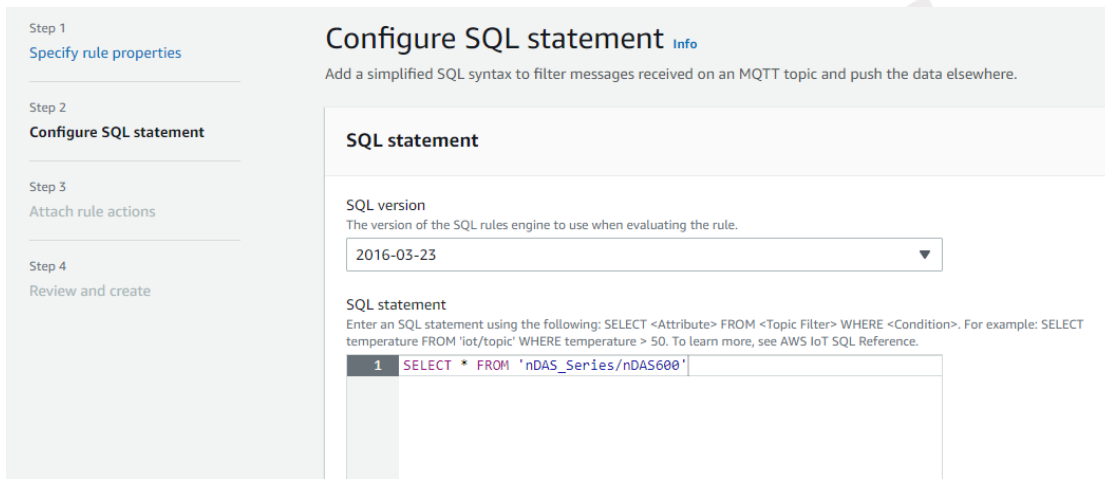

Figure 4-135 Create Rule-Configure SQL statement
2. During step 2 of creating a Rule, you need to enter an SQL statement. This statement determines which messages from the subscribed Topic in IoT Core will be affected and whether to add filters to extract specific information as needed (as shown in Figure 4-135).